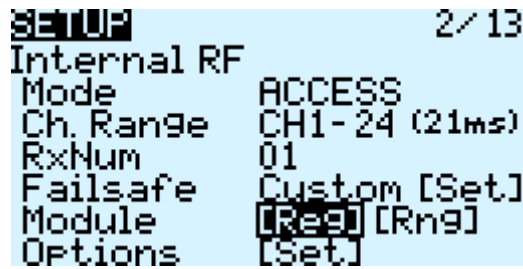

Figure 35: Internal RF
5. Using the ENT knob, scroll down to INTERNAL RF. (Figure 35)